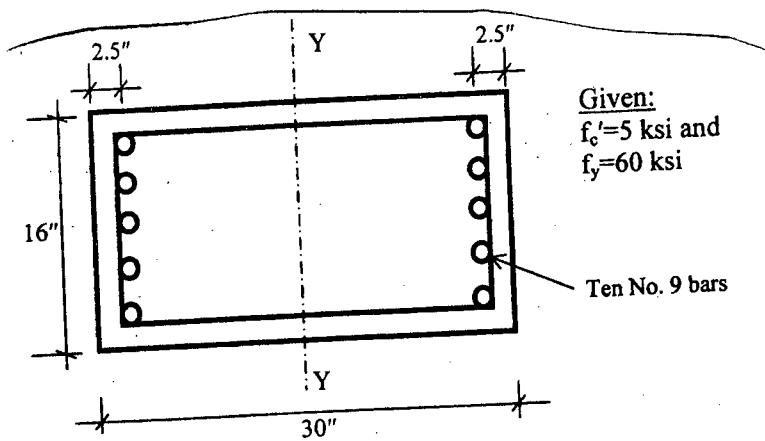

Fig. 1
1. (a) A circular column carries a working unfactored DL = 650 kip and LL = 400 kip. Design the spirally reinforced column using about 2 percent main reinforcement. Also design the ACI spiral. Given :  $f'_c = 4.0$  ksi and  $f_y = 60$  ksi. (12)
(b) A 16 × 30 inch column is reinforced with Ten No. 9 bars as shown in Fig. 1. Construct the nominal strength interaction diagram for the column with five points corresponding to pure axial load, pure bending, balance condition,  $\epsilon_s = 0.001$  (tensile) and  $\epsilon_s = 0.004$  (tensile). Also find corresponding  $\phi$  for the above points. Assume bending about Y-Y axis. Given :  $f'_c = 5$  ksi and  $f_y = 60$  ksi. (23)
2. (a) A ground floor column of a multistoried building is to be designed for the following load combinations (axial force and uniaxial bending)- (16)
1. (a) Briefly discuss the importance of connection design in the overall structural design process of steel structures. (8)
- (b) The beam shown in Fig. 1 has lateral support at locations *a*, *b*, *c*, and *d*. Compute  $C_b$  for segment *b* – *c*. Use the unfactored service loads as shown. (12)